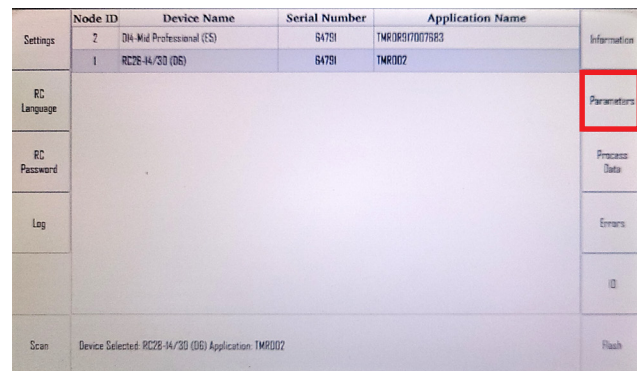

Figure 15: Press the 'Parameters' button
17. In the Home screen, press the 'Parameters' button; see Figure 15.